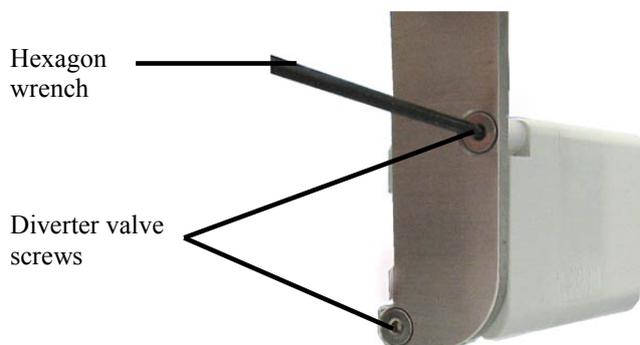

Fig. 28: Dismounting the diverter valve
6. Mount the diverter valve to the diverter valve assembly by using the hexagon wrench shipped with the kit (→ Fig. 28, page 67). The diverter valve must be mounted with the waste connection facing upward.
4. Loosen the two diverter valve screws by using the hexagon wrench shipped with the kit (→ Fig. 28).